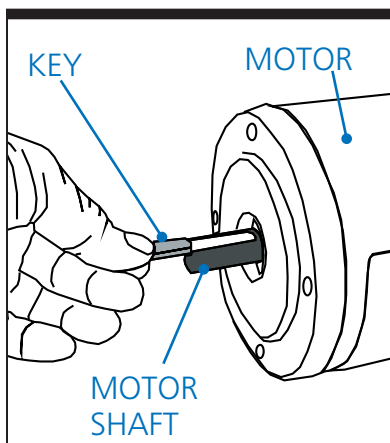

Figure 5-3. Motor Key/Shaft
Step 8—Install Motor. Install the key to the motor shaft and coat the shaft with anti-seize compound (see Figure 5-3). Insert the motor shaft into the speed reducer. Rotate the motor to the correct position and firmly secure to flange with four hex-head cap screws. Do not allow the motor to "hang" unsupported before fully seated in the reducer to avoid damaging the reducer input seal. If the motor does not readily seat itself, check to see if the key has moved.